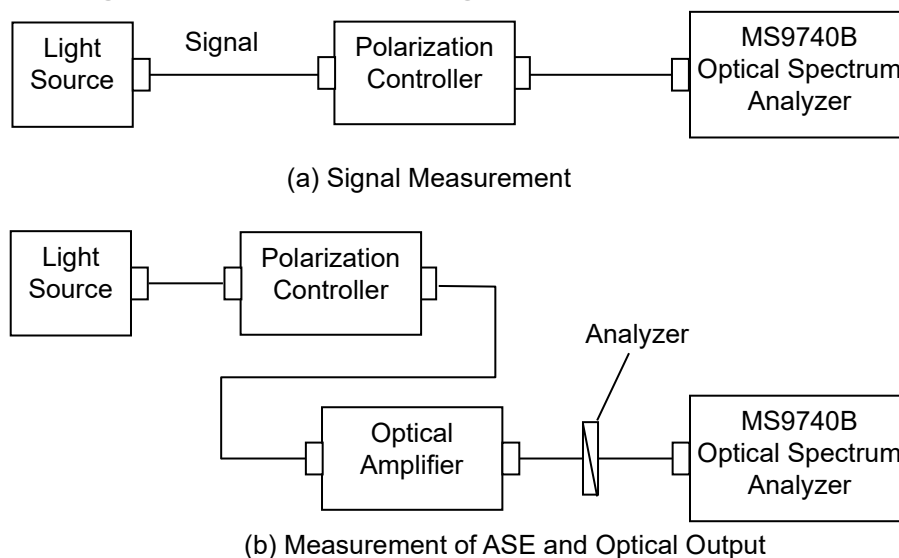

Figure 5.7.4-1 Measurement System for Polarization Nulling Method
8. Input the output light of the optical amplifier to MS9740B as shown by the connection in Figure 5.7.4-1 (a).
17. Input the output light of the optical amplifier to MS9740B as shown by the connection in Figure 5.7.4-1 (b).